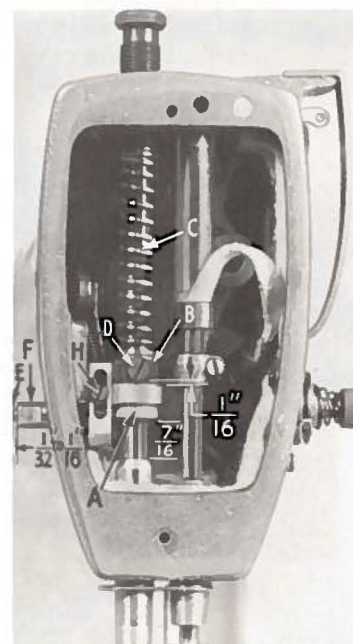

Fig. 16 A
When locating the presser bar guide (B, Fig. 16 A), the presser foot must rest directly against the throat plate with the feed dog in its lowest position. The guide is set properly when there is a 1/16 inch (1.59 mm) space between guide (B) and presser bar connection (A, Fig. 16 A).